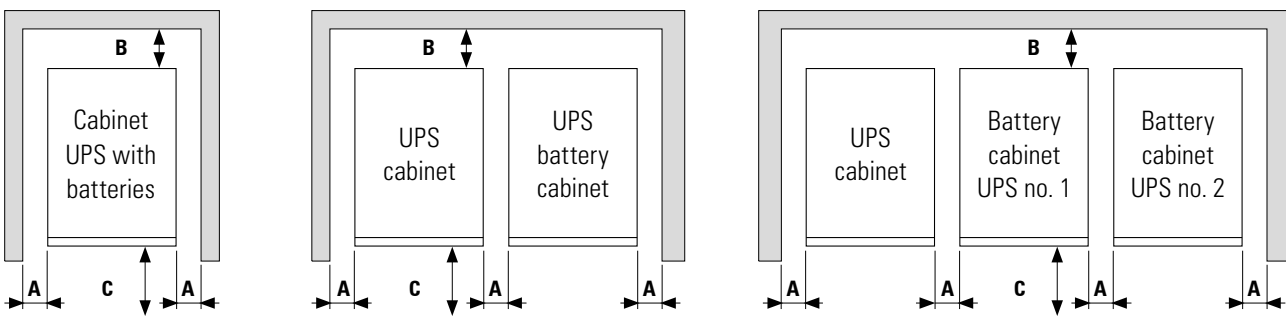

Fig. 29. Minimum peripheral dimensions for ventilating the UPS tower version.
- By way of example, *Fig. 29* shows configurations composed of a single UPS cabinet: a UPS with batteries inside, a UPS with an external battery cabinet and a UPS with extended autonomy with two external battery cabinets.